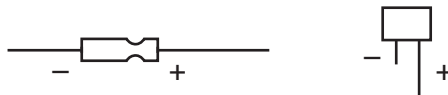

Fig. 2.2
2. An electrolytic capacitor of nominal value $100\mu\text{F}$ e.g. RS component number 739-6799 should be labelled C. The circuit could be hazardous if the capacitor is connected the wrong way round. The supervisor must connect the positive terminal of the capacitor to the positive terminal of the power supply. Fig. 2.2 shows the negative and positive terminals of the two most common types of capacitor.